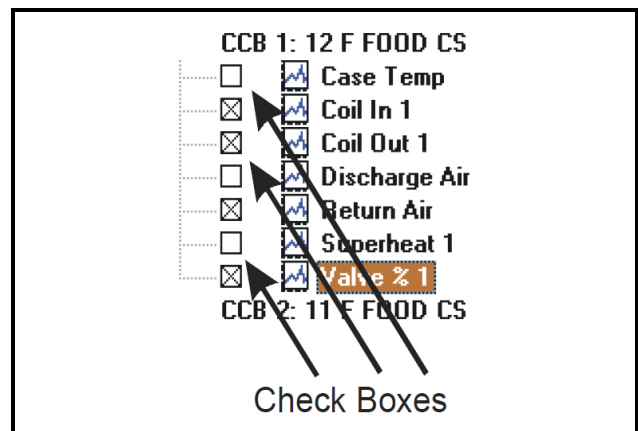

Figure 6-1 Log Check Boxes in Tree View
2. If you want to view one log a time, click on the Log button located near the animated device. If you want to view more than one log graph from the same status screen, click each Check Box near the device, then click the Log Button in the command line at the top of the screen (see **Figure 6-1**).